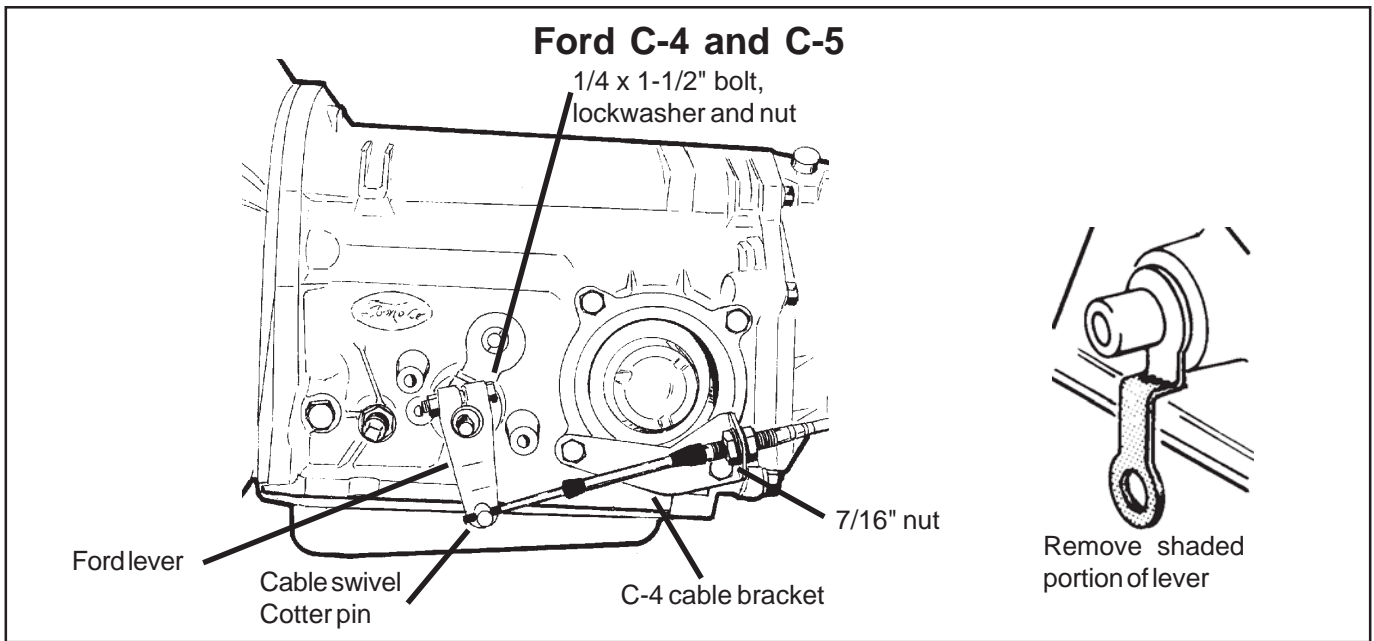

Figure 6
STEP 16. Install the **B&M** selector lever (See Figure 6 or 7). Note: The **B&M** lever must point downward for proper operation. If the stock shift lever on your transmission points down, you will have to remove the lower part of the stock arm by cutting it off to clear the **B&M** lever (See Figure 6). Install the **B&M** selector lever onto the shift shaft of the transmission. Align the selector lever so when it points straight down it travels equal arcs in both directions from the center, then tighten the 1/4"-20 x 1 1/2" pinch bolt and nut. The lever should travel smoothly from front to back with a positive click in each gear position. Make sure the O-ring is in position on the downshift shaft and install the downshift lever in position on the shaft. Install the lockwasher and the nut and tighten securely. The downshift lever must operate smoothly. Reconnect the downshift linkage.
C-4, C-5: Remove the two lower bolts from the rear servo cover. Install the cable bracket in position (See Figure 6). Install the two servo cover bolts as removed and tighten to 12-13 lb.ft. Do not overtighten as this can distort the servo cover.